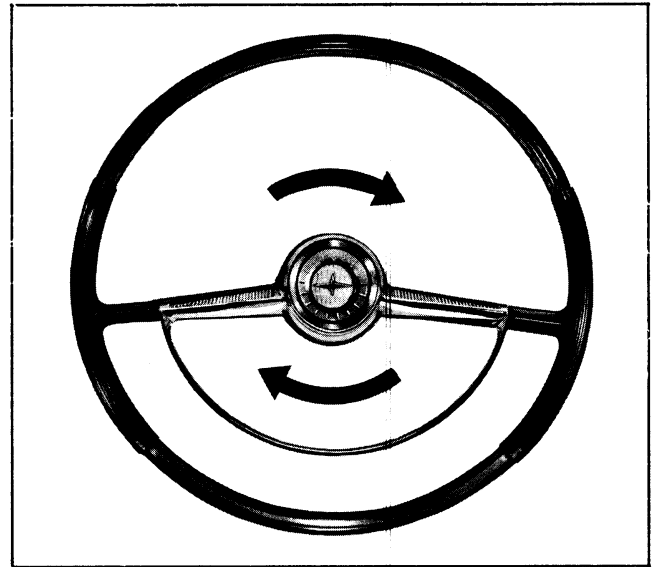

Fig. 9-8 Removing Deluxe Steering Wheel Horn Button
1. Twist steering wheel ornament and lift to remove (Fig. 9-8).